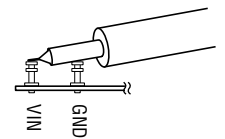

Figure 2. Scope Probe Placement for Measuring Input or Output Ripple
**NOTE:** When measuring the input or output voltage ripple, care must be taken to avoid a long ground lead on the oscilloscope probe. Measure the input or output voltage ripple by touching the probe tip directly across the  $V_{in}$  or  $V_{out}$  and GND terminals. See Figure 2 for proper scope probe technique.